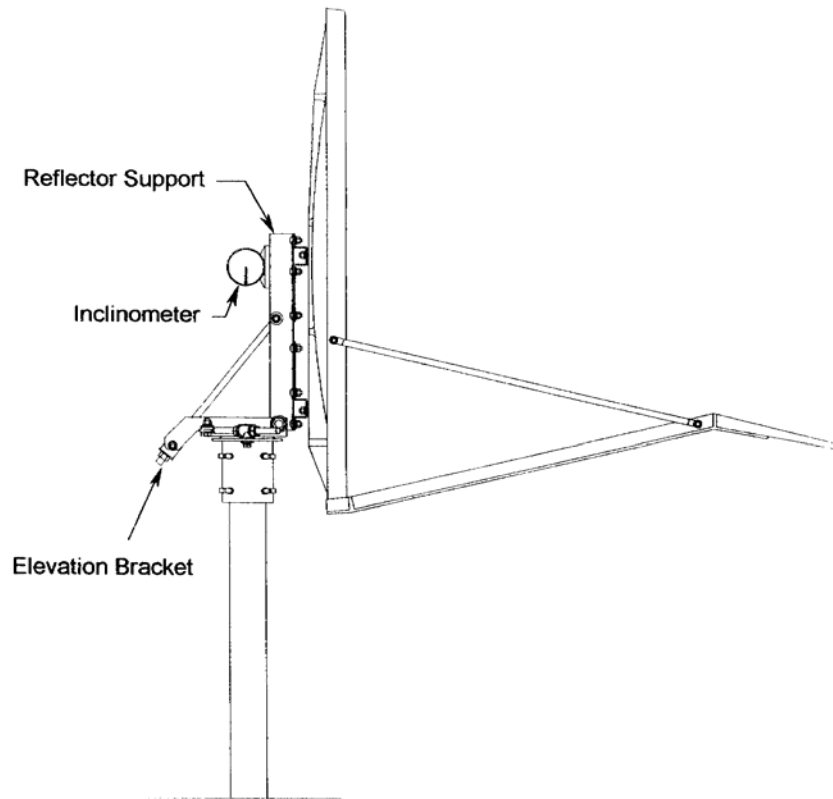

FIGURE 2.
The .89 meter reflector contains a 15.80° elevation offset look angle. Therefore, when the reflector aperture is perpendicular to the ground, the antenna is actually looking 15.80° in elevation. Refer to Figure 2.
STEP 1: Place an inclinometer on the reflector support angle as shown in Figure 2.